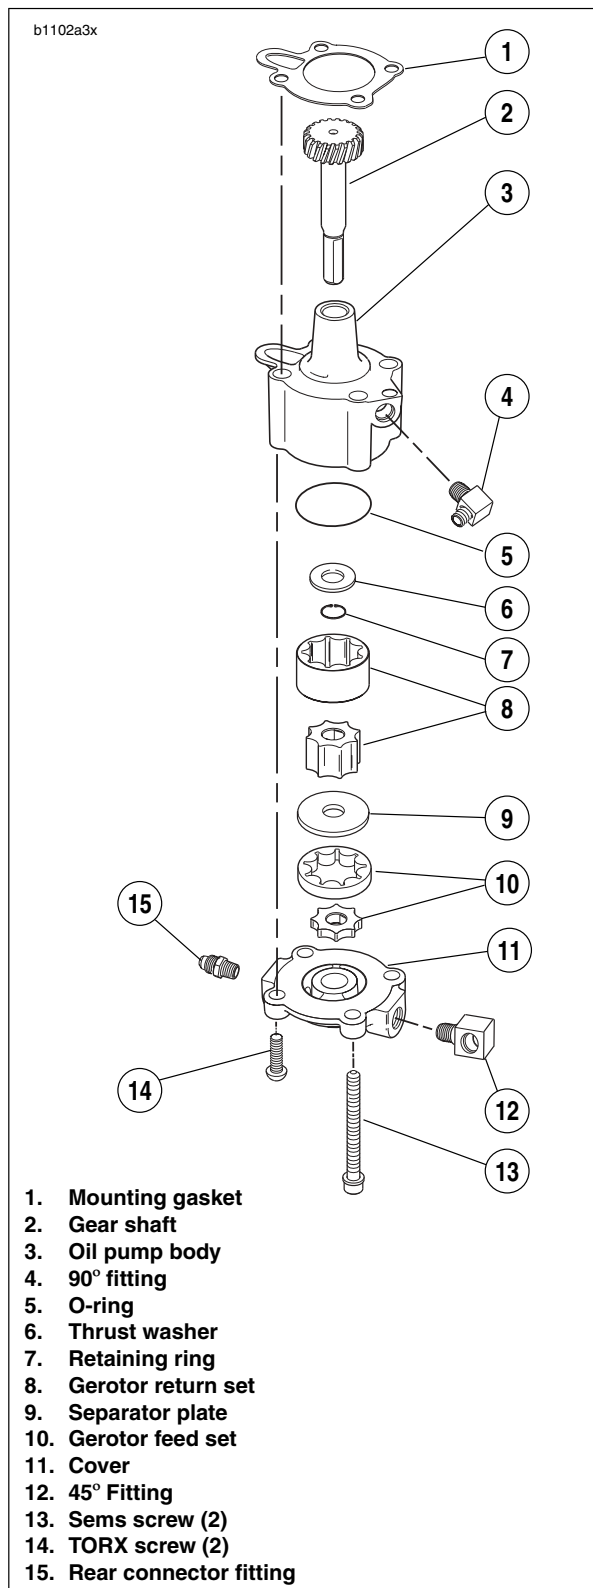
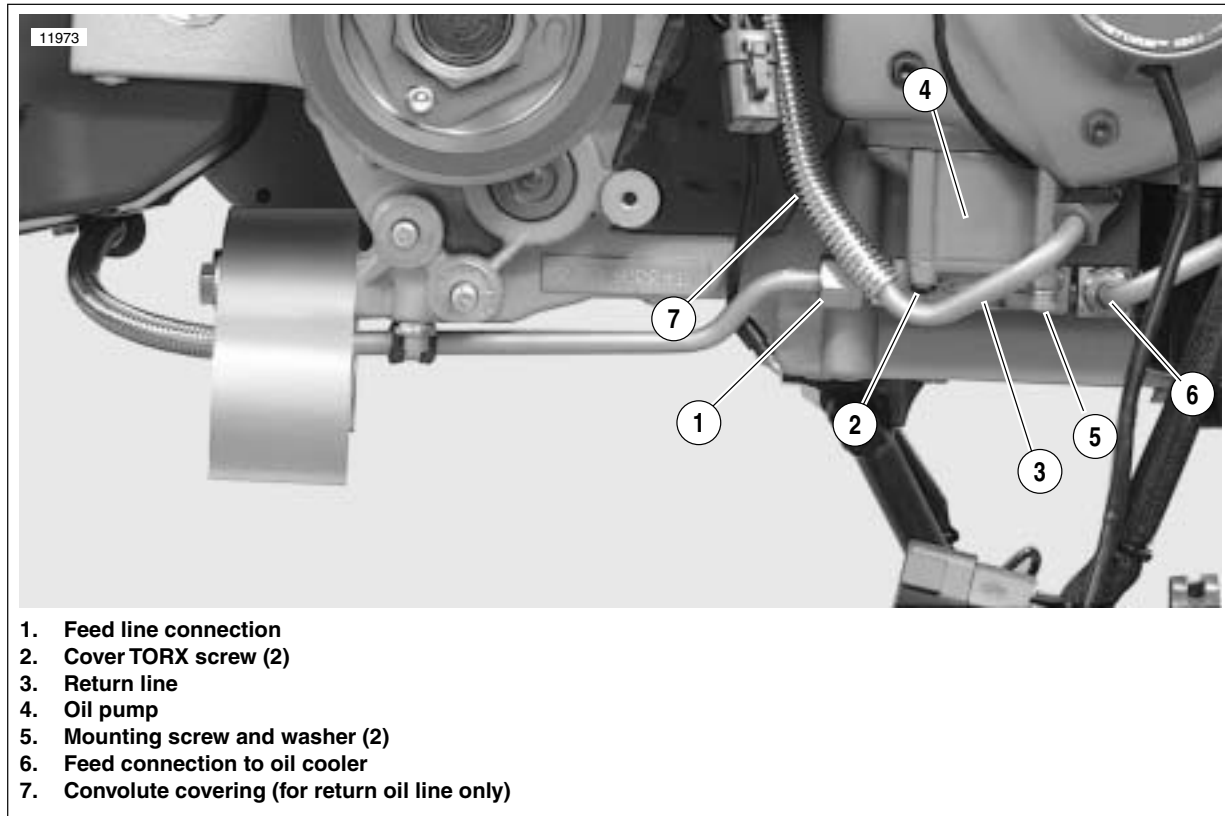

Figure 3-118. Oil Pump
Figure 3-119. Oil Pump Hardware
See Figure 3-118. The oil pump consists of two gerotor gear sets, feed and return, housed in one pump body. The feed set distributes oil to the engine, the scavenge set returns oil to the tank/swingarm reservoir.
4. See Figure 3-119. Disconnect feed line connections (1, 6) on both sides of the oil pump.
5. Detach return line connection (3).
6. Carefully remove mounting screws (5) and washers only. Pump will drop with screws removed. Discard mounting gasket.
7. Remove cover TORX screws (2). Lift cover off body.
3. See Figure 3-118. Check gear shaft teeth for damage or wear. Replace if necessary.
1. See Figure 3-118. Install gear shaft through body. Position thrust washer over end of shaft. Install **new** retaining ring into groove in shaft.
6. See Figure 3-118. Place gerotor feed set over gear shaft.
7. Place cover (11) onto pump body (3). Install cover TORX screws(14). Tighten to 70-80 **in-lbs** (8-9 Nm).
8. Place **new** mounting gasket (1) in position.
9. Secure pump to crankcase with mounting screws (13). Tighten to 125-150 **in-lbs** (14-17 Nm).
10. See Figure 3-119. Attach return line connection (3) and tighten to 22-24 ft-lbs (29.8-32.5 Nm).
12. Tighten feed line connection (1) to 27-29 ft-lbs (36.6-39.3 Nm).
13. Tighten feed line connection (6) to 22-24 ft-lbs (29.8-32.5 Nm).